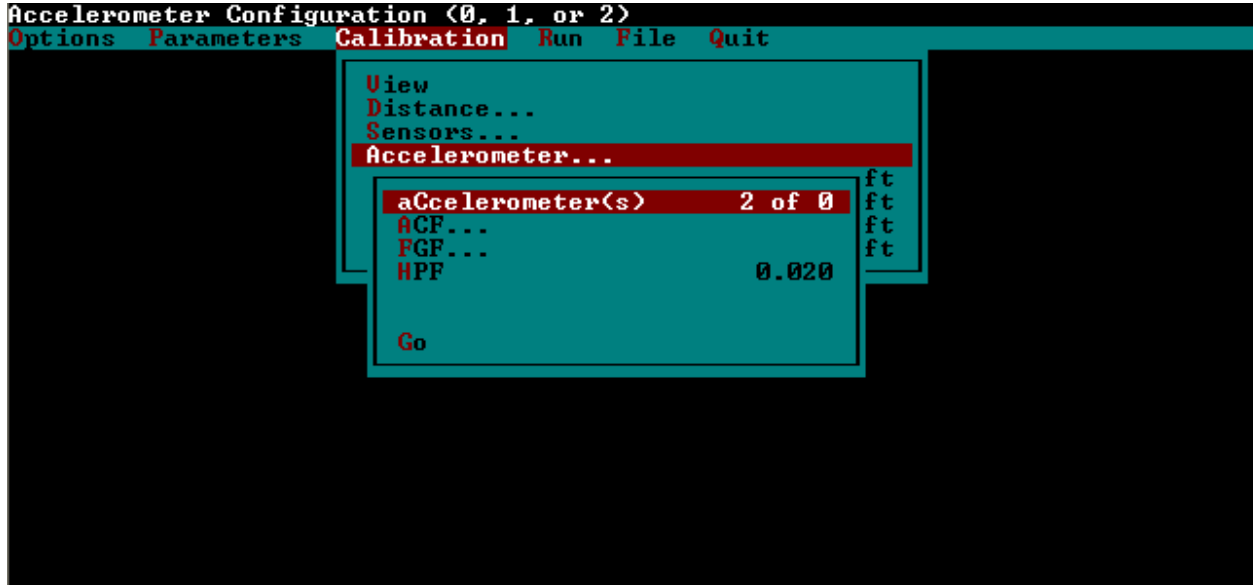

Figure 4-2. MDR Software Accelerometer Calibration Menu for Accelerometer Check.
2. In the MDR Main Menu, select 'Calibration' to display the Calibration Menu. In the Calibration Menu, highlight 'Accelerometer...' and press 'Enter' key, and the Accelerometer Calibration Menu shown in Figure 4-2 will be displayed on the monitor. Please note that accelerometer line on top of menu should read "2 of 2".